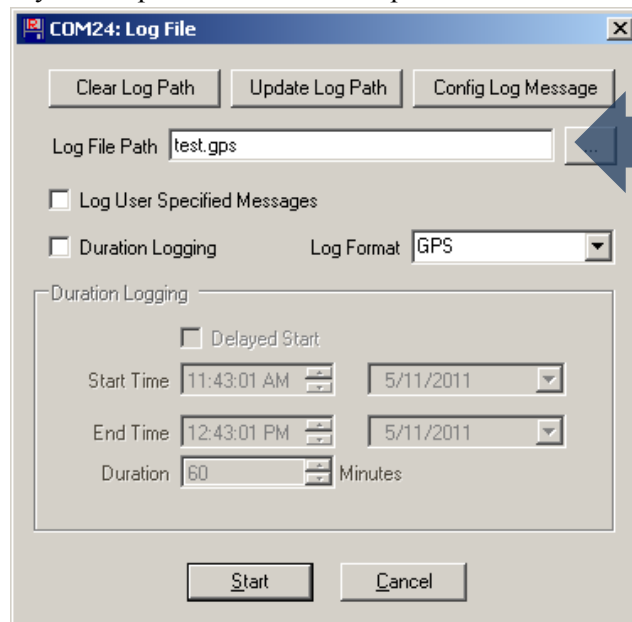

Fig 19: Clicking on the “. . .” button will give the user the control of the output folder and output name
- i. The *Log File* window should open, which is shown in Fig 19. Click on the “. . .” button, as indicated by the arrow in Fig 19, to open a window where the user can specify the output folder and the output file name.